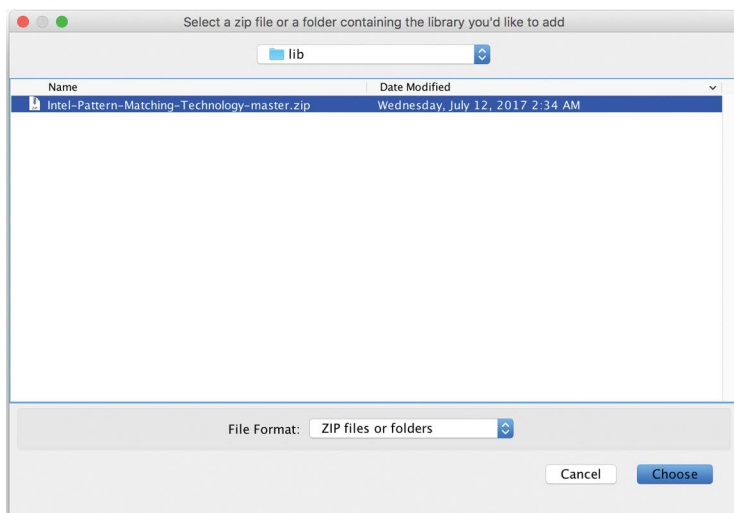
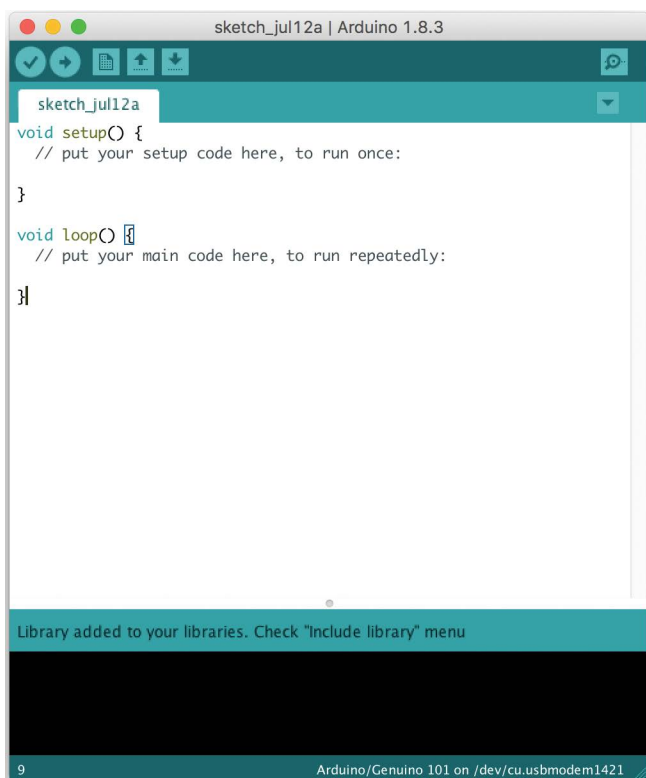

FIGURE 5.3: Choosing the Intel-Pattern-Matching-Technology-master.zip file
FIGURE 5.4: The “Library added to your libraries” message
3. Upload the Intel-Pattern-Matching-Technology-master.zip file (Figure 5.3), and the Arduino IDE will display a “Library added to your libraries” message in the sketch window (Figure 5.4).